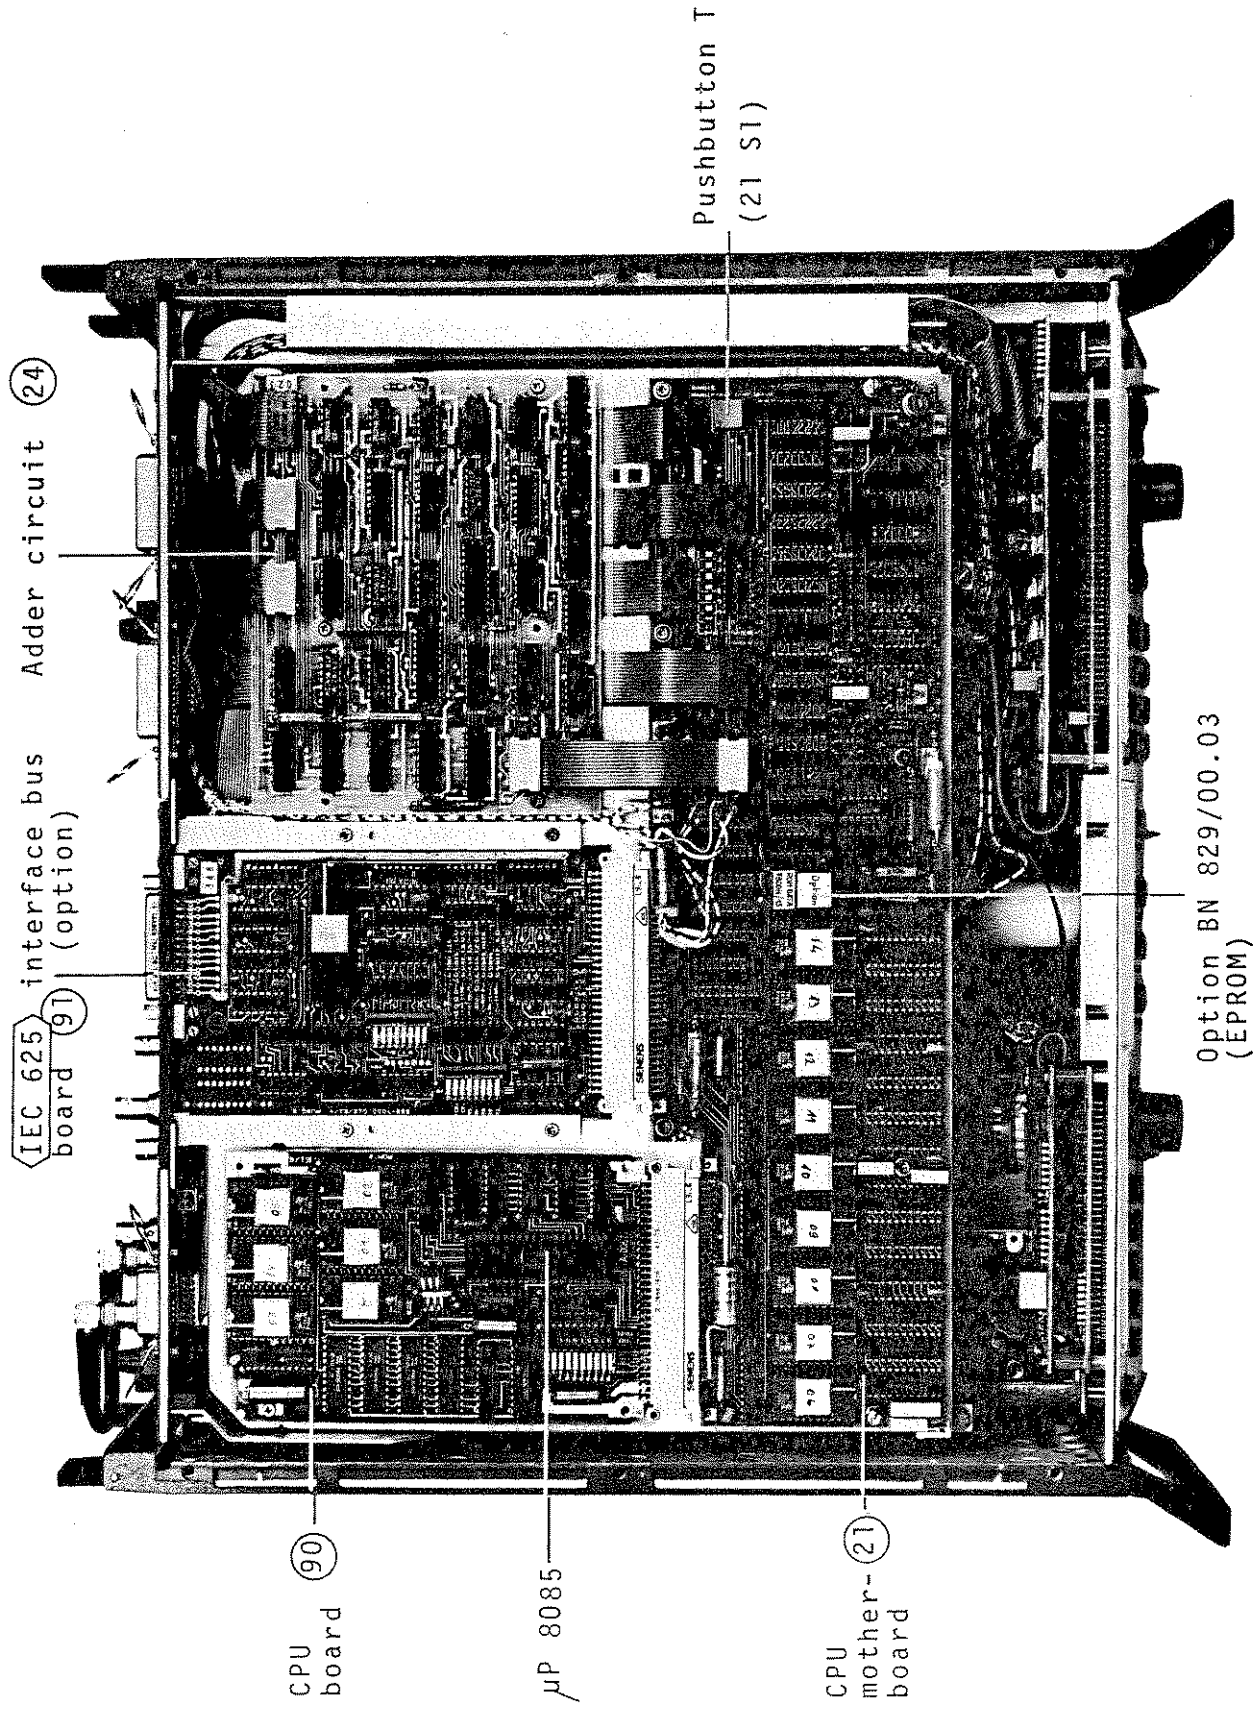

Figure 6-2 Upper side of the upper folding chassis
Figure 6-2 shows details of the components in the upper folding chassis after removal of the equipment cover and the chassis cover. Amongst other things, the microprocessor (INTEL 8085) and the free positions for the optional accessories IEC bus board or printer interface and PROM (white noise program, fixed frequencies, set-ups) with customer-specific programs can be seen in this figure. The pushbutton T is depressed only after repair in order to initialize the unit if the buffer battery for the RAM power supplies was disconnected during repair (see section 3.6).
3. Hold the unit (reference potential) with one hand, remove the MOS module from its packing material with the other hand (holding it at the ends), and insert it in the position shown in Figure 6-2. The module is oriented correctly if the inscription on the component is the same as on socket.